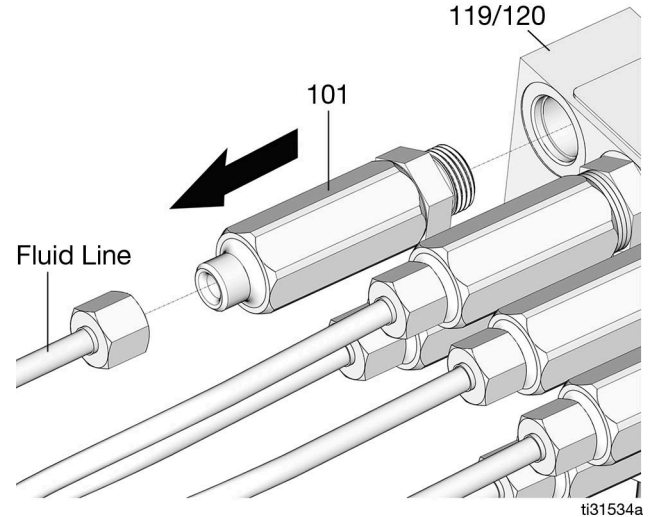

FIG. 45
- b. Remove the feed line. Use a 5/8 in. deep well socket to remove the injector (101) from the manifold (119/120) (FIG. 45).